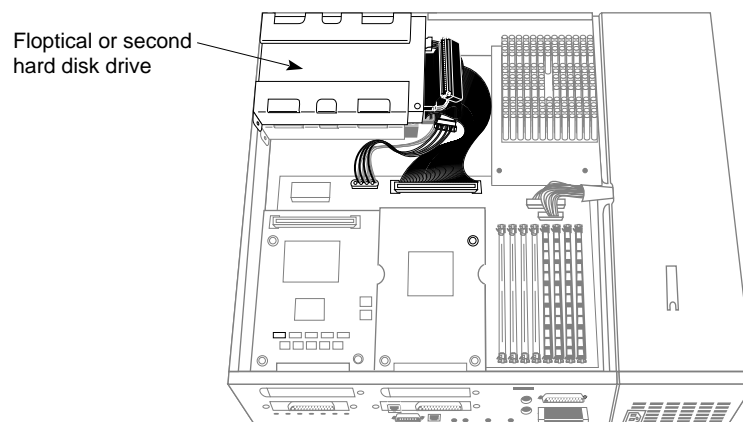

Figure 9-19 Locating the Floptical or Second Hard Disk Drive
5. Locate the floptical or second hard drive, as shown in Figure 9-19.